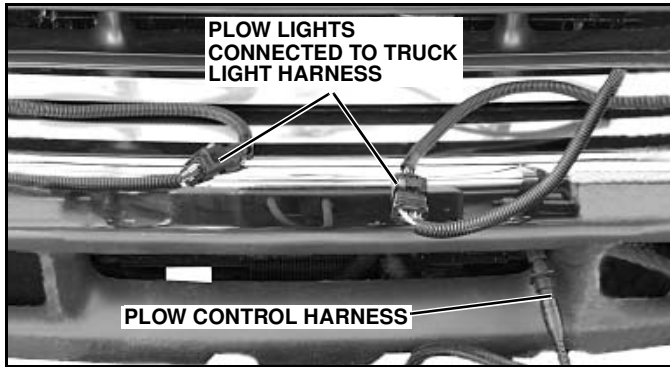

Figure 1-37
3. Turn Down Pressure OFF and disconnect the plow lights from the truck light harness. (See Figure 1-37). Disconnect the plow control harness and replace the protective cap.